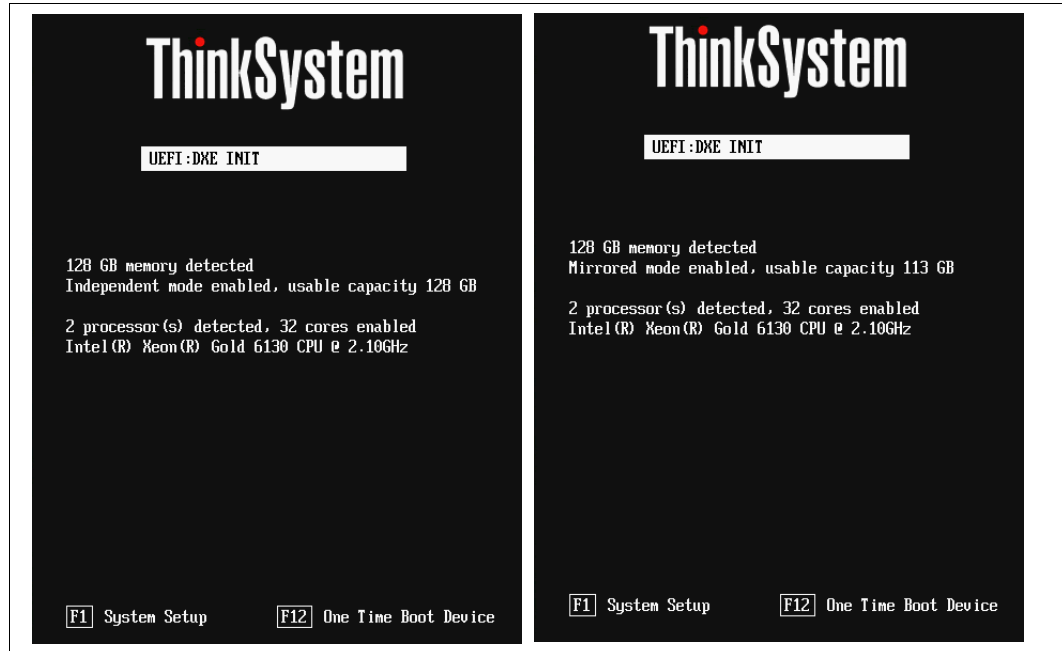

Figure 14 Memory Independent Mode (left) and Mirror Mode (right)
- The memory information of the memory mirror is shown on the system boot screen. The usable memory capacity is reduced according to the configuration that was set in UEFI. Figure 14 on page 17 shows the memory independent mode on the left side and Address Range Mirroring mode on the right side.